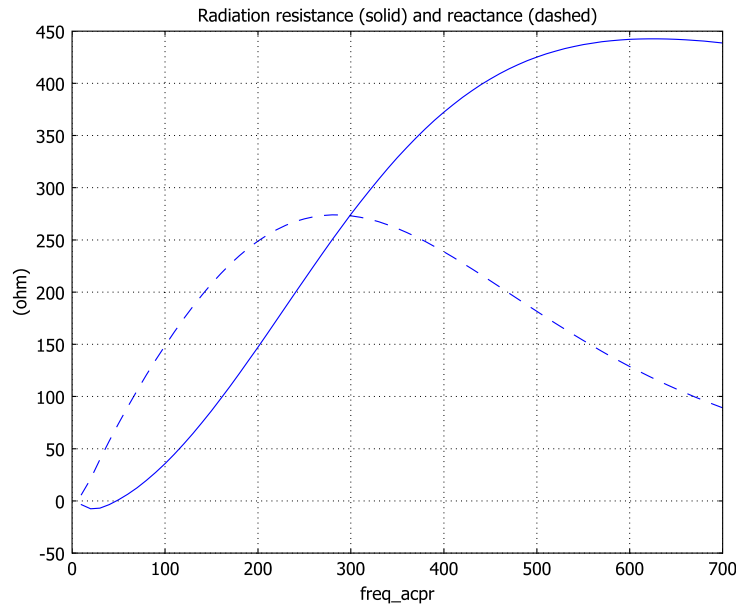

Figure 4-7: Radiation resistance and reactance at the opening of the pipe.
- 5 In the **Expression** field type $\text{imag}(zL)$, then click **OK** to reproduce the plot in Figure 4-7.